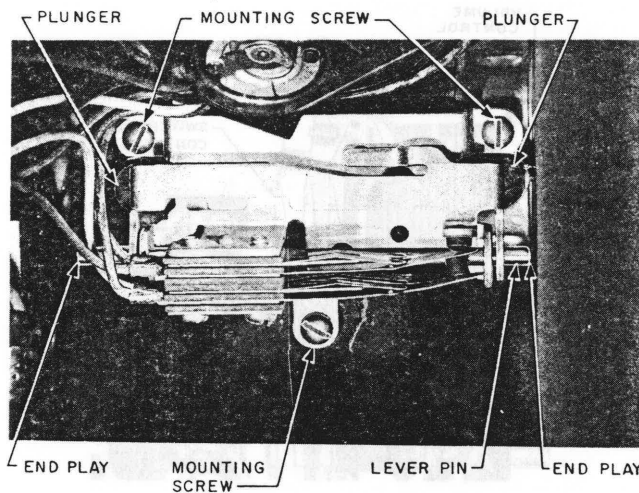

Fig. 1 - Plunger Assembly
- If plungers bind or squeak, open set and check for sticky plungers or lever pin or lack of end play in the set (see Fig. 1).